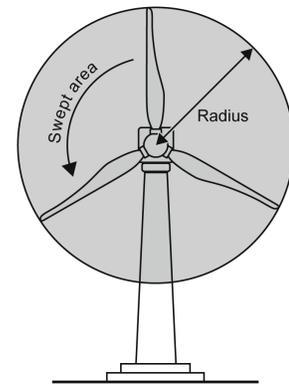

Figure 2
- b. Measure the radius of the turbine (see Figure 2) and record the value in Table 2.